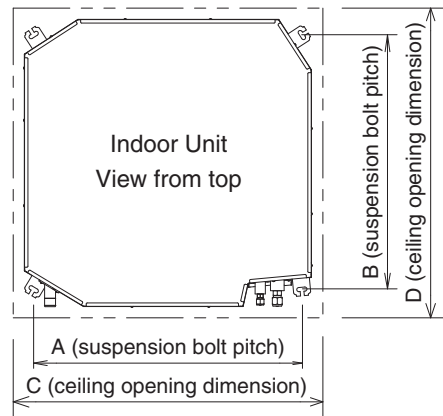

Fig. 3-86
- Follow Fig. 3-86 and Table 3-5 to make the holes in the ceiling.